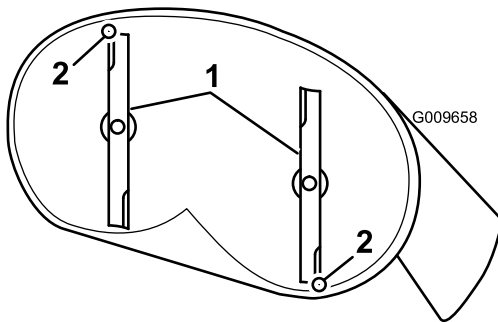

Figure 54
4. Carefully rotate the blades so they are facing front to rear (Figure 54).
5. Measure from the tip of the front blade to the flat surface, and the tip of the rear blade to the flat surface (Figure 54).
9. After adjustment, check the front-to-rear slope again, continue adjusting the nut until the front blade tip is 1.6 to 7.9 mm (1/16 to 5/16 inch) lower than the rear blade tip (Figure 54).